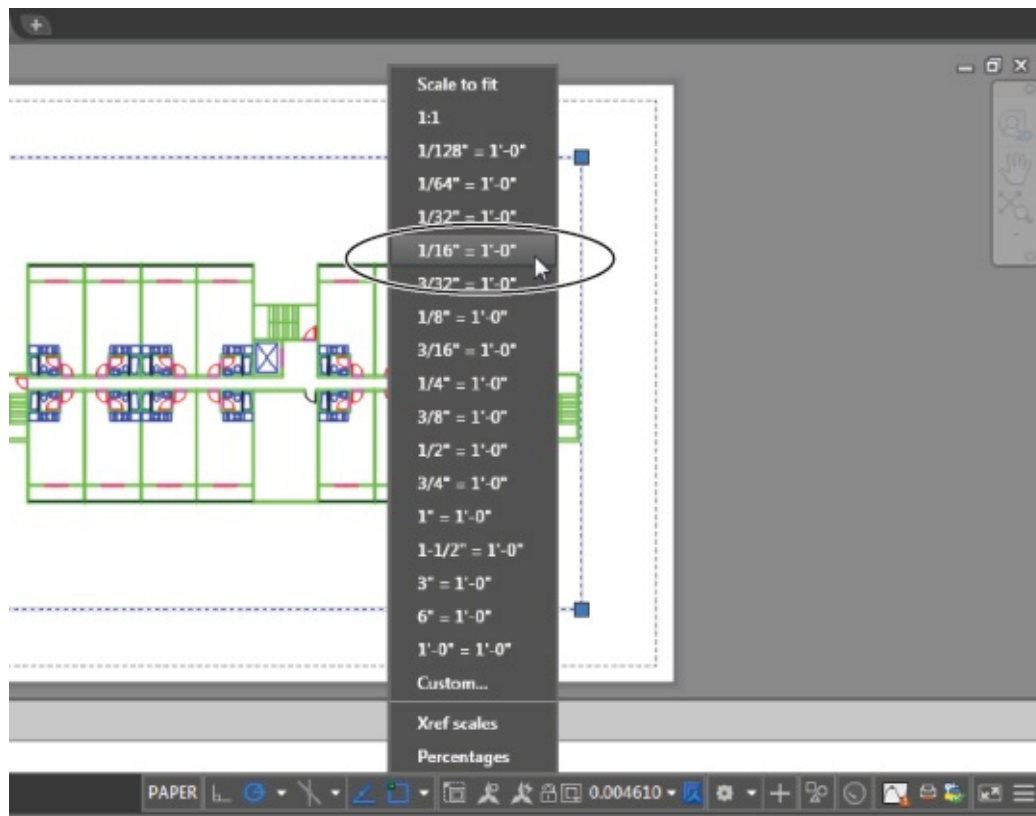

FIGURE 8.9 Choose a viewport scale.
2. Click the Viewport Scale tool, and a list of common drawing scales appears (see Figure 8.9).